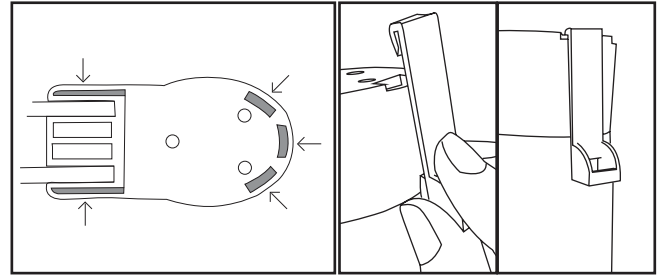

Figure 2.6.2 - Return Clip placement options
6.2 - If desired, snap in the return clips and pin return through the openings. See Figure 2.6.2